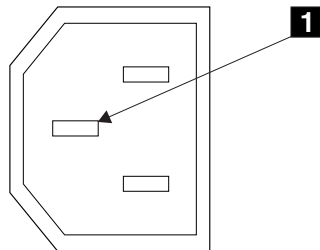

Figure 6. Ground pin
6. Check for continuity between the frame of the SAN Volume Controller 2145-4F2 and the ground pin of each main power connector. Figure 6 shows the location of the ground pin.